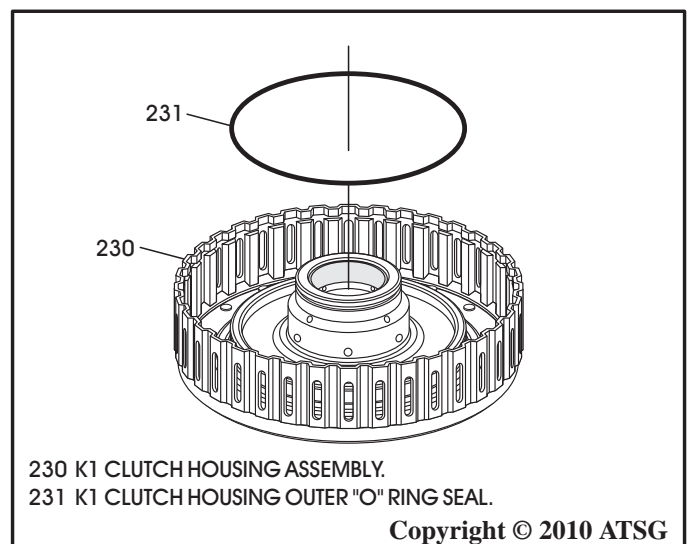

Figure 126
7. Install new outer K1 clutch piston "O" ring seal into groove of the K1 clutch housing, as shown in Figure 126, and lube with a small amount of Trans-Jel®.